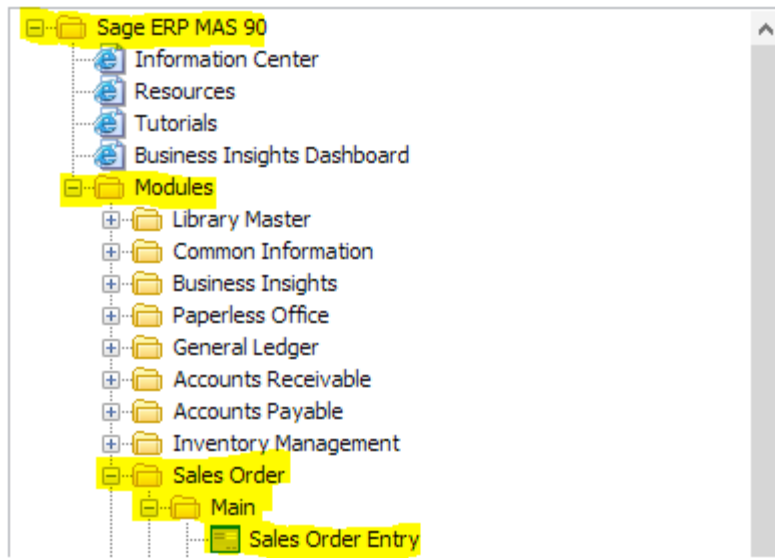

Figure 1.1
### Sales Order Entry (See Figure 1.1)
**Note:** This module can also be found by following Figure 1.1 of Finding MAS 90 Modules.